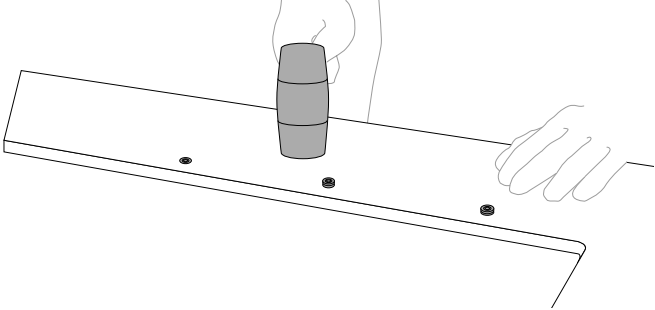

fig. 4
After inserting the bushing into the hole, you can proceed to secure it completely using a rubber mallet (fig. 4).
- Proceed to apply the adhesive onto the surfaces to be joined (*fig. 4*).